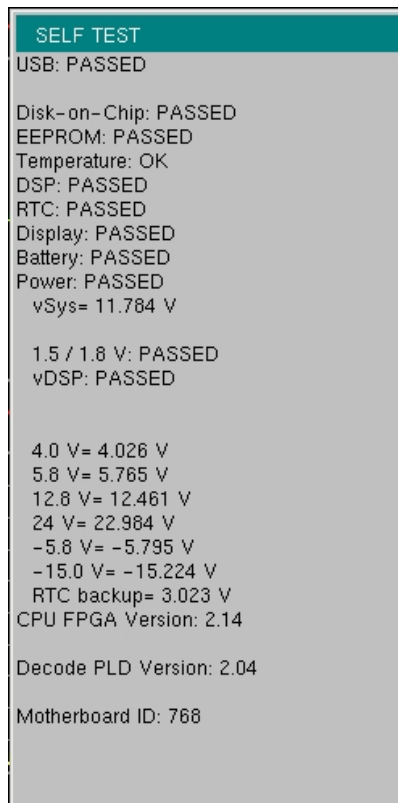

Figure B-1. Self Test Results Window
To run self test, press **Shift** and **System** (8) and then **Self Test**. Refer to the results window in Figure B-1, which summarizes the status of several key functions in the instrument that are common to all applications (note that your instrument display may differ from this image).